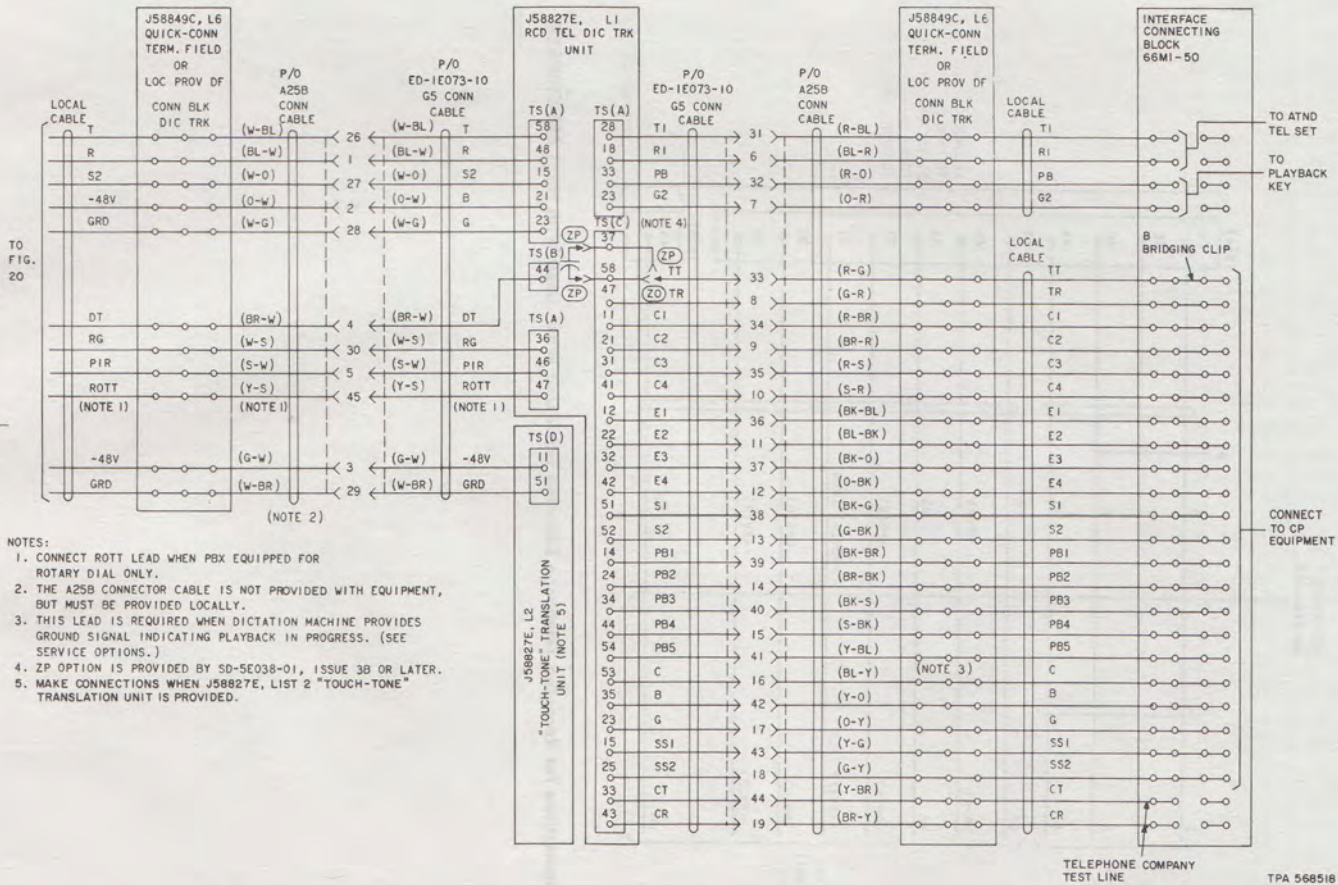

Fig. 7—Connections for Recorded Telephone Dictation Trunk Circuit When Used With 800A PBX
6.03	Connections for Recorded Telephone Dictation Trunk Units when used with an 800A PBX are shown in Fig. 7 and 20.